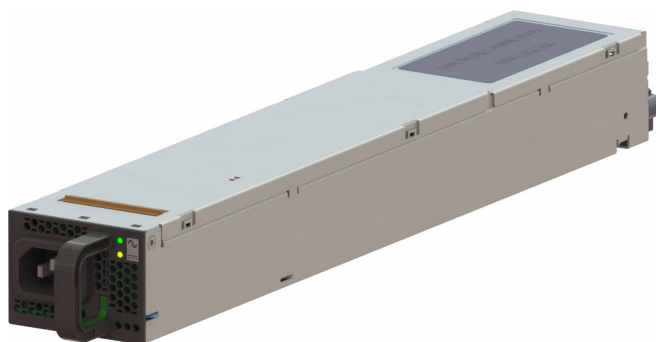

Figure 1-15 Power Supply Module (rated at 1100 Watts)
- Two or four power supplies (if four, two are redundant) (Figure 1-15);